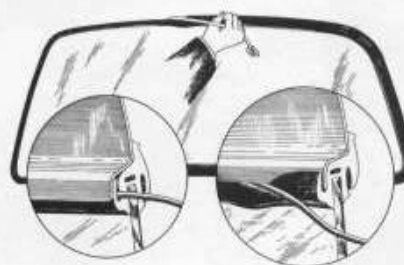

Fig. 41. Fitting windscreen.
3. Place the windscreen in position with rubber strips lifted. Wearing working gloves, carefully strike the windscreen a few blows with the palm of the hand so that it makes good contact all round. Then carefully pull out the cord from inside. This will cause the rubber strip to "creep" over the sheet metal edge as shown in Fig. 41. It may sometimes be necessary to adjust the position of the windscreen with the palm of the hand. If the cord is difficult to pull out, this may cause damage to the strip, in which case the windscreen should be struck with the palm of the hand either from inside or outside as necessary if the rubber strip does not "creep" over the edge of the sheet metal properly.